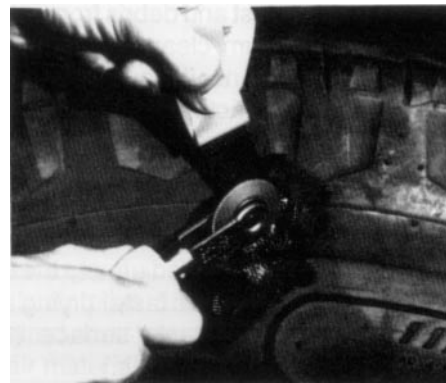

Fig. 7
7. Use cushion gum or extruder rope to fill the injury. Fill the injury completely by stitching and packing small strips of rubber gum firmly with an awl and a stitcher to prevent trapped air. See Fig. 7.